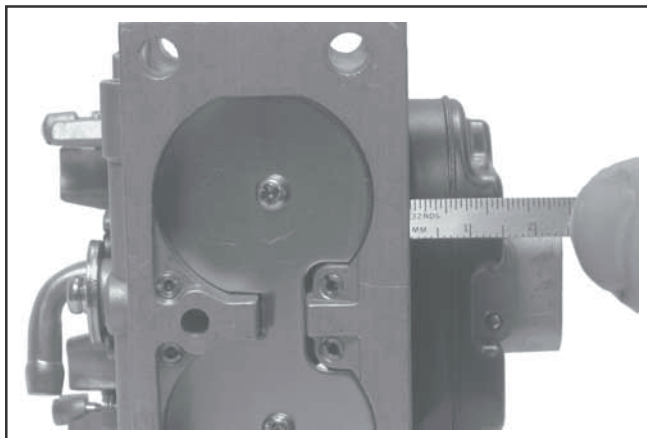

Figure 5-27. Checking Float Height.
15. The correct float height setting is **17 mm (0.669 in.) \pm 1.5 mm (0.059 in.)**, measured from the float bottom to the body of the carburetor. See Figure 5-27. Replace the float if the height is different than specified. Do not attempt to adjust by bending the float tab.